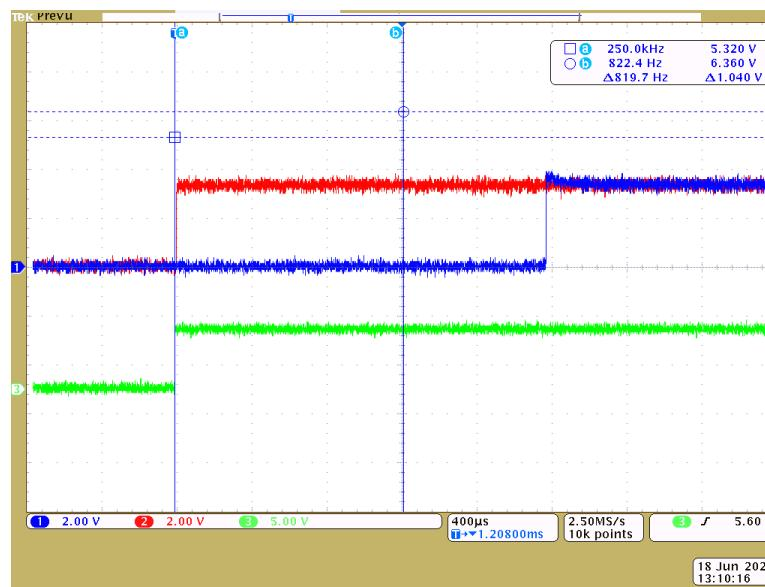

Figure 4-21. Expected Output Signal
11. The output at the oscilloscope should look like the Figure 4-21 where green waveform is the pulse to the ACT pin (TP6), red waveform is Enable 2 signal and blue waveform is the Enable 1 Signal.